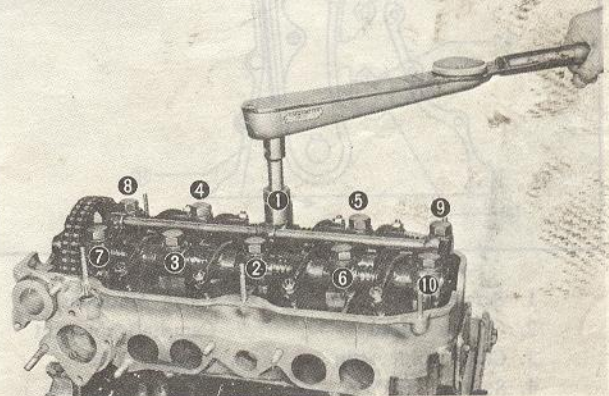

Fig. 1-71 Tightening order of cylinder head bolts
5. Tighten the cylinder head bolts evenly to 8.2 ~ 8.8 m·kg (59 ~ 64 ft·lb) in the sequence shown in Fig. 1-71.